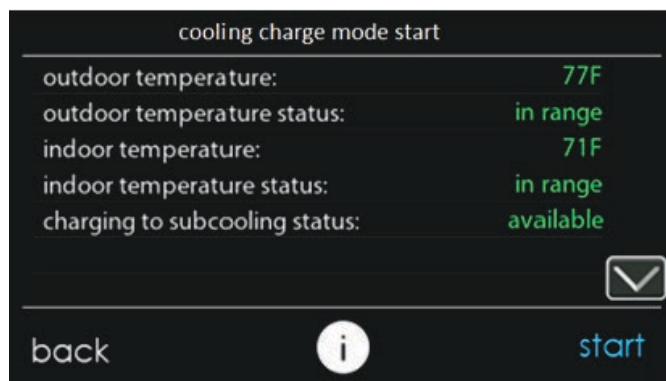
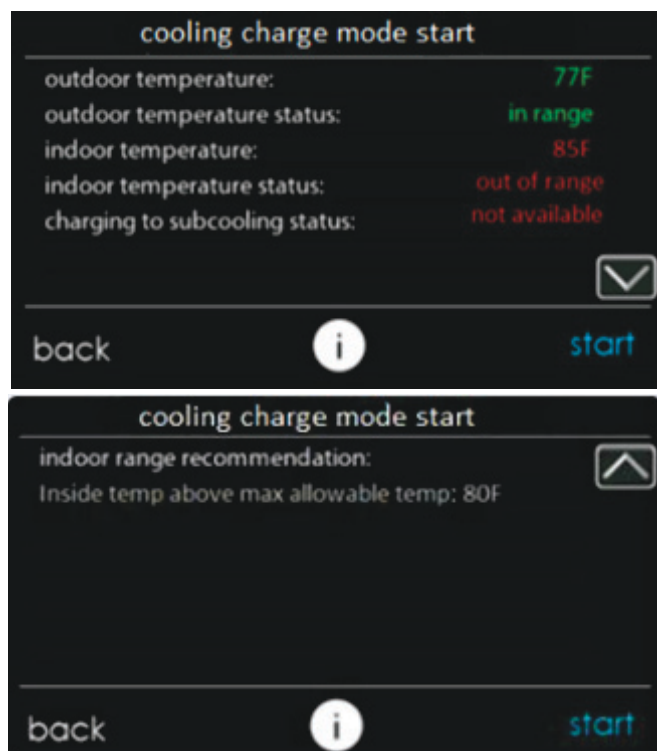

Fig. 17 – Cooling Charge Mode Start Screen - Subcooling Available ^{A240373}
Fig. 18 – Cooling Charge Mode Start Screen - Subcooling Unavailable ^{A240385}
8. The next screen, “cooling charge mode start” is shown in Fig. 17 or Fig. 18 depending on whether subcooling charging is available. The reason for unavailability of subcooling can be viewed by pressing the down arrow to go to the second page. Before selecting “Start”, verify that the service valves are open. Pressing start will turn on the system at a fixed set of operating parameters in COOLING mode.